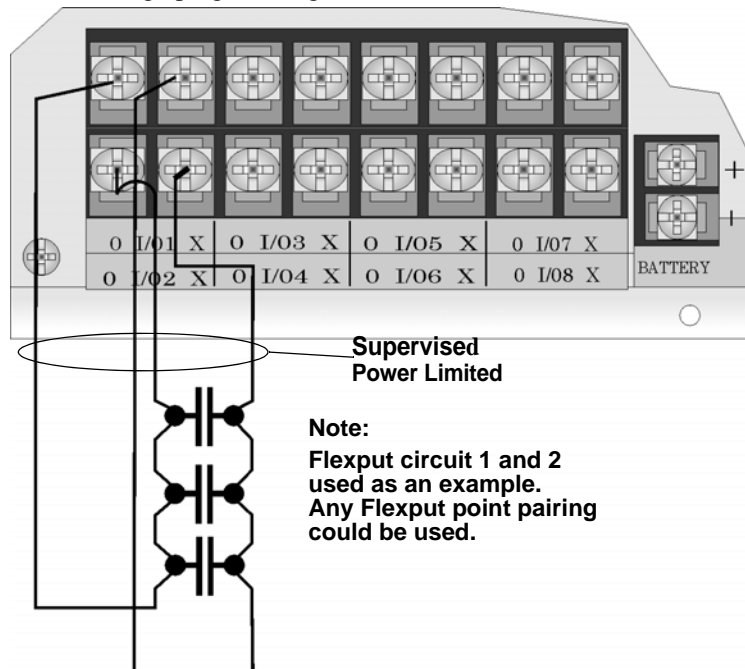

Figure 4-34 Class A initiating Switches
- Wire the Class A switch as shown in Figure 4-34.
Note: In programming any point that uses multiple Flexput circuits, the lowest Flexput circuit number is used to refer to the circuit pair. For example, Figure 4-34 uses both Flexput circuit 1 and 2, so in programming it would be referred to as point 1.